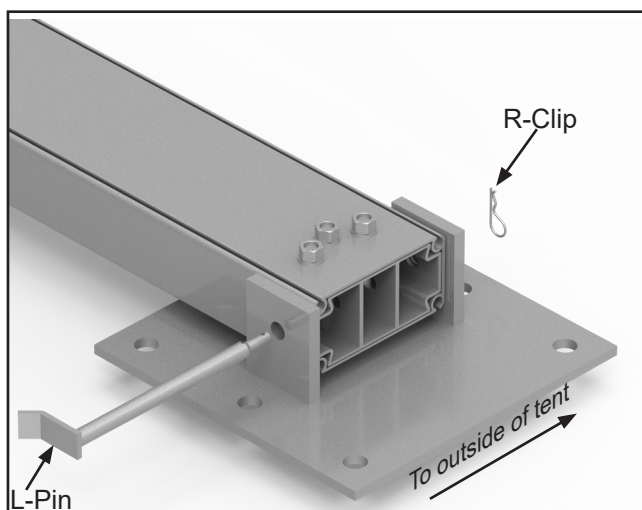

Figure 2.2
2.2.1 Starting at Base Plate “1”, connect the bottom of the Upright Connection Insert to the Base Plate using the L-Pin as shown in **Figure 2.2**. There are two holes in the L-Pin. Insert the larger R-clip in the second hole from the end of the L-pin after installing the L-pin. The other hole will be used later when the Wall Ground bars are installed.